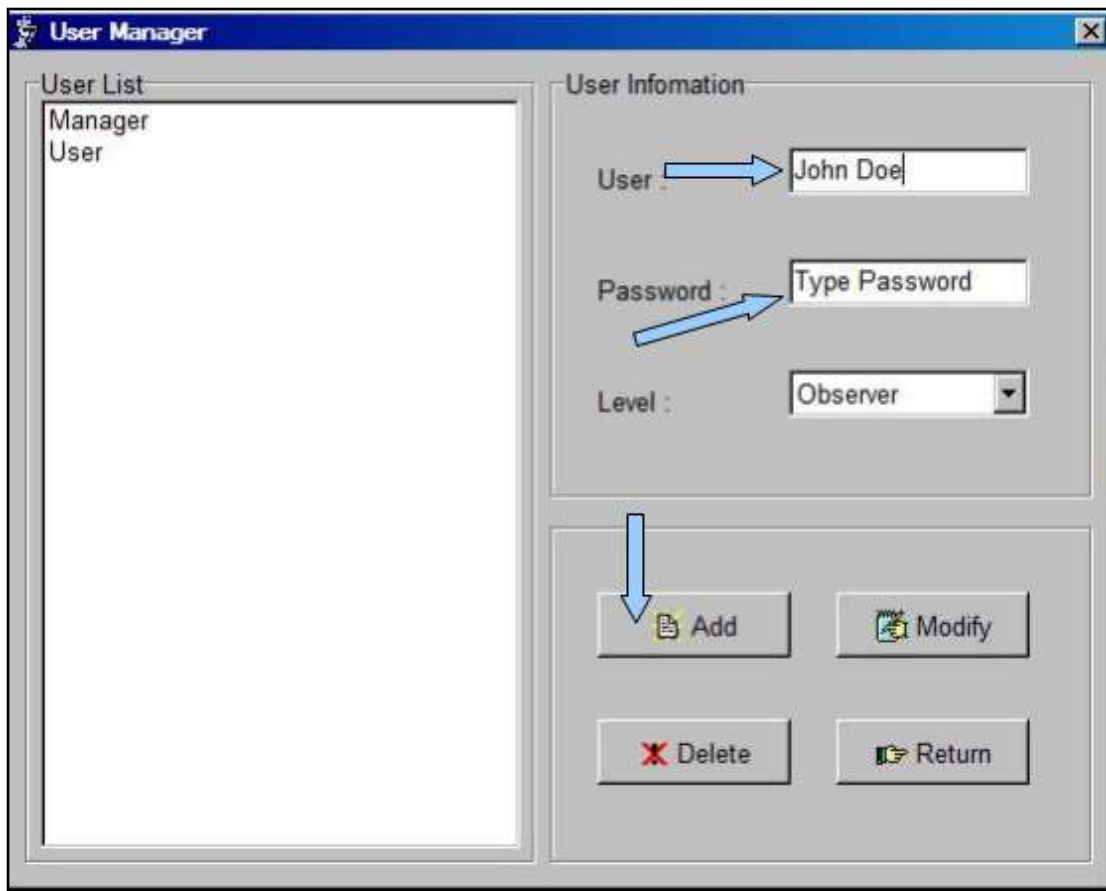

Figure 4-45. Enter User name and Password
2. Enter a user name and password, **Figure 4-45**. Then click *Add*.